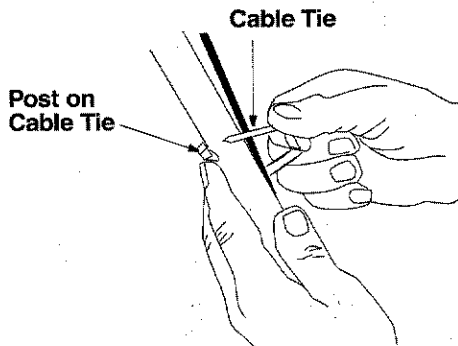

Figure 5
- Tighten the two wing nuts which are already on the handle. See Figure 5.
- Insert post of cable ties that are on lower handle into the holes provided on the lower handle. The holes may be on the inside or outside. Pull cable ties tight and cut off the extra. See Figure 5 below.